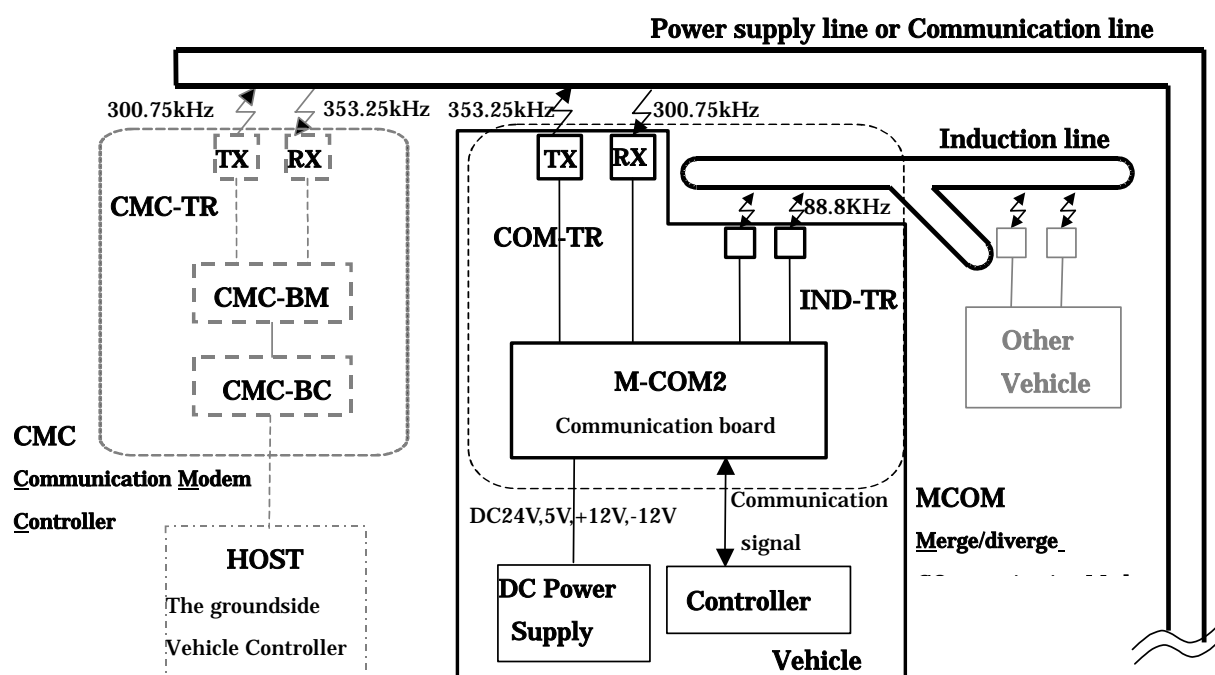
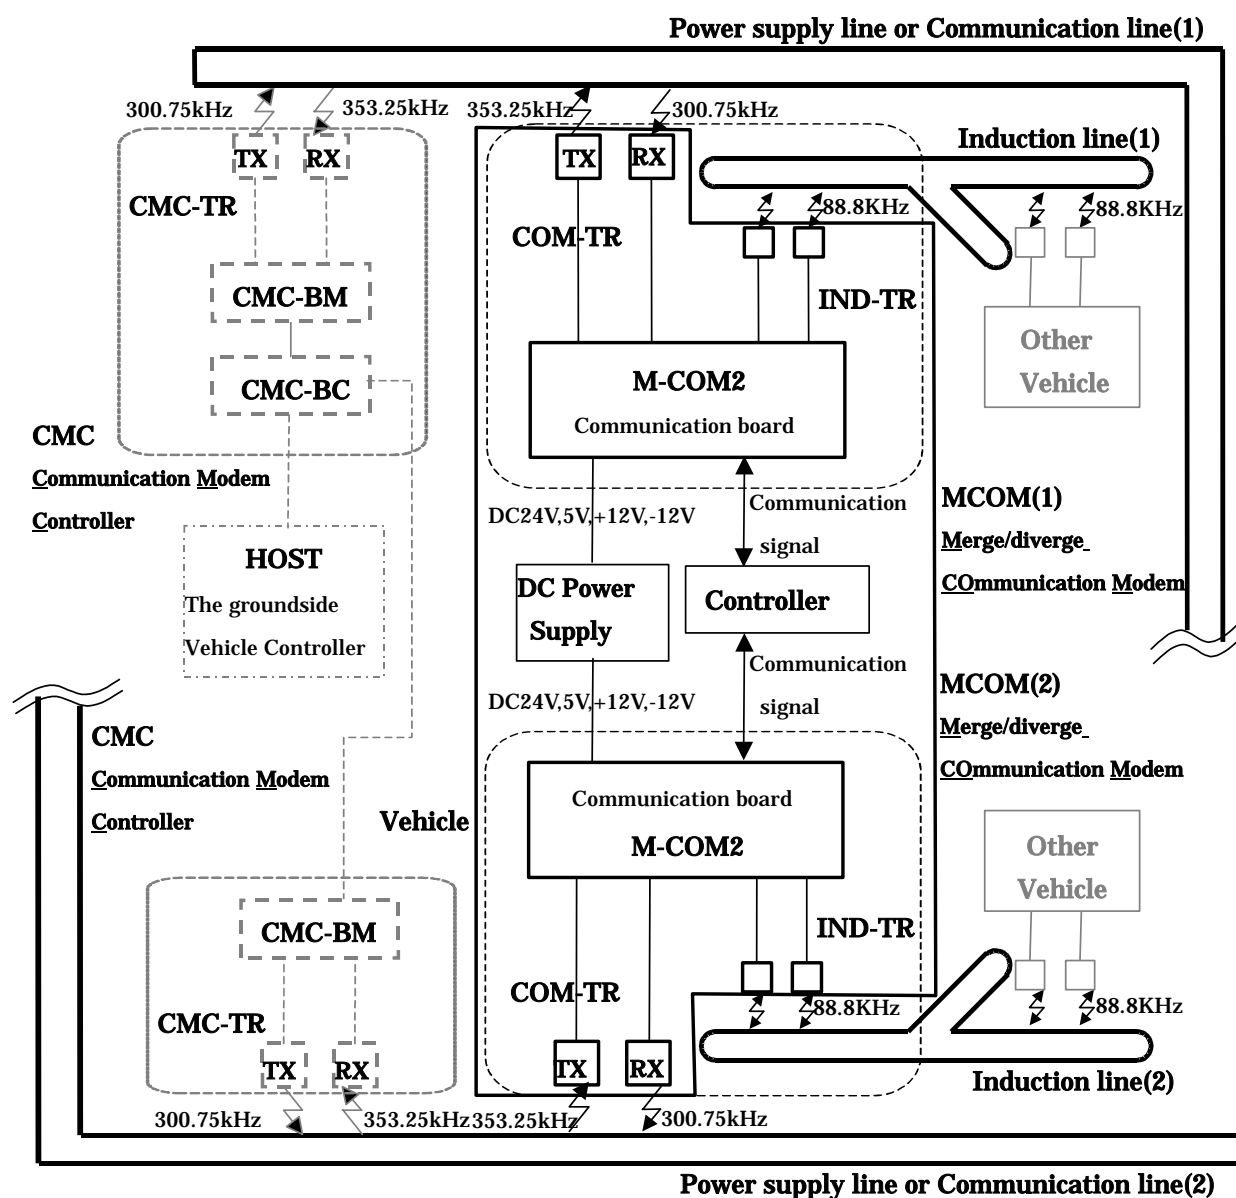

Fig. 1 Basic configuration of MCOM
Fig. 2 Modified MCOM configuration
**Fig. 1** and **Fig. 2** show the basic configuration of MCOM. MCOM consists of the following units.